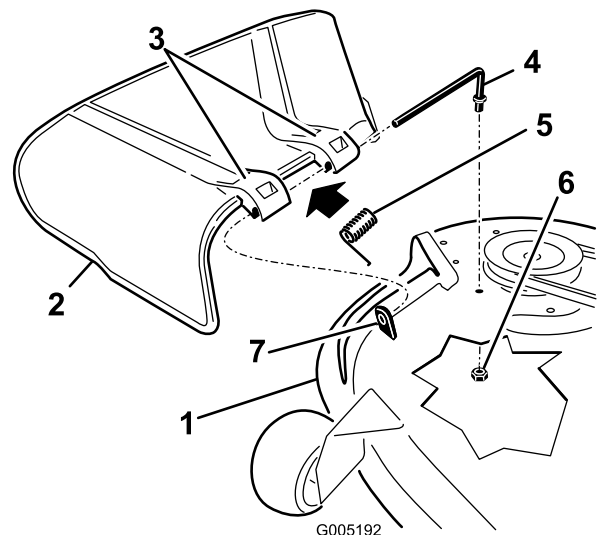

Figure 61
1. Remove the nut (3/8 inch) from the rod under the mower (Figure 61).
2. Slide the rod out of the short standoff, spring, and the grass deflector (Figure 61).
4. Replace the grass deflector (Figure 61).
7. Slide rod through the second grass-deflector bracket (Figure 61).
9. Secure the rear end of the rod into the mower with a nut (3/8 inch) as shown in Figure 61.